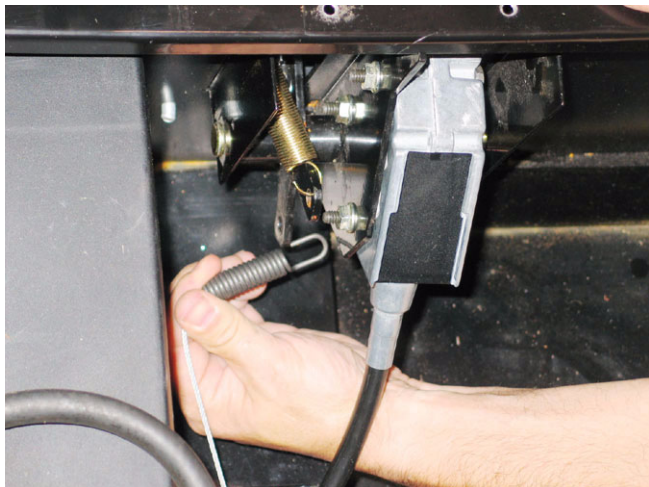

Figure 4.35
- 4.35. Disconnect the differential lock control cable from the differential lock control lever: Pull the cable forward to get clearance to unhook the spring at the end of the cable. See Figure 4.35.